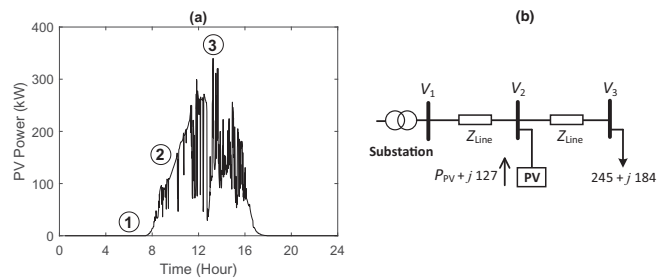

Figure 1.17 The power system in Exercise 1.12: (a) PV power generation; (b) the power distribution network with the PV unit at bus 2 and a fixed load at bus 3.
- 1.12** Figure 1.17(a) shows the power generation profile of a PV unit on a cloudy day. Three points are marked on the figure. Point ① is at early morning when solar power generation has not yet started. Point ② is at around 10 AM when solar power generation is picking up. Point ③ is at around 1 PM when the maximum solar power generation occurs on this day. This PV unit is connected to bus 2 at a 3-bus power distribution system, as shown in Figure 1.17(b). In addition to supplying active power, the PV unit also supplies reactive power at a fixed rate of 127 kVAR. There is a fixed load of 245 kW and 184 kVAR at bus 3. The voltage at bus 1 is fixed at $V_1 = 7200 \angle 0$. The impedance of each distribution line is $Z_{\text{Line}} = 0.0412 + j0.0625 \Omega$. Obtain the voltage phasor at bus 2 and the voltage phasor at bus 3 at each of the following cases:
- (a) At point ① where solar power generation is $P_{\text{PV}} = 0$.
- (b) At point ② where solar power generation is $P_{\text{PV}} = 158 \text{ kW}$.
- (c) At point ③ where solar power generation is $P_{\text{PV}} = 340 \text{ kW}$.